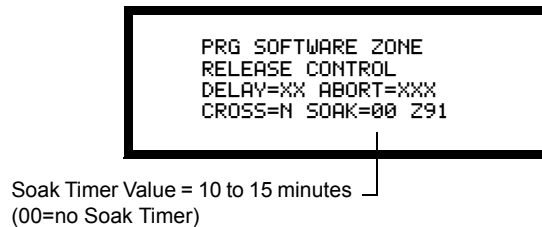

Figure 143 Soak Timer Selection
1. Select Soak on the Release Control Screen, move the cursor to the Soak value as shown in Figure 143: